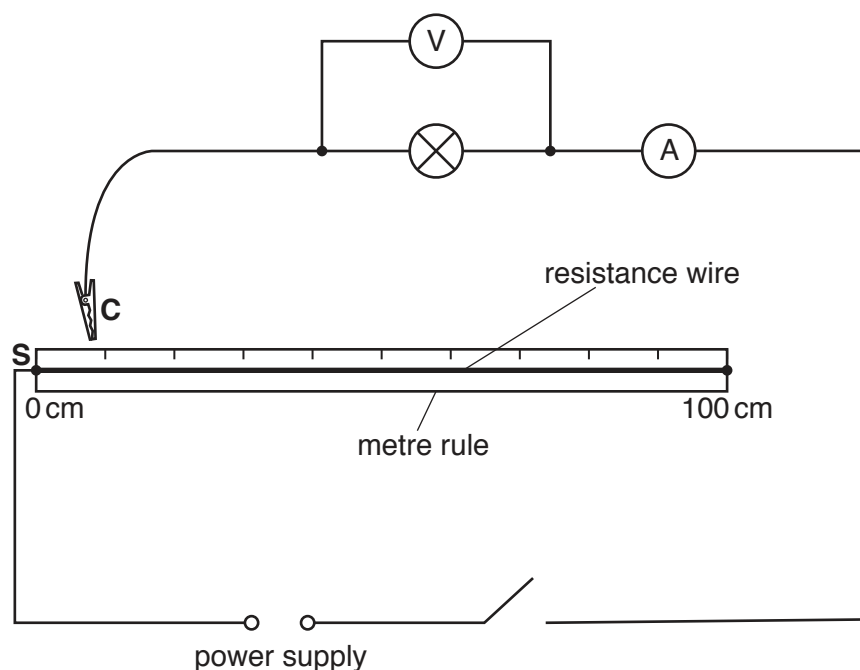

Fig. 3.1
1. The circuit shown in Fig. 3.1 below must be set up for the candidates. The crocodile clip must **not** be connected to the resistance wire. At changeover, check that the circuit is still connected correctly and working.